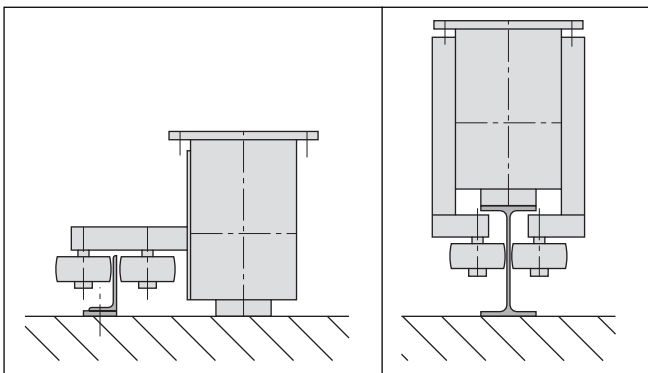

Fig. 3 - Traversing on concrete track, Fig. 4 - Traversing on rails with "L" shaped guide rail
The lower trolley (3) is hot galvanised at 500 gr/m². The trolley has 4 wheels, 2 front wheels are powered and the two rear wheels are mounted on an articulated beam. A polyurethane layer gives smooth and silent traversing and a good grip. The trolley is guided along the track by guide wheels (8) attached to the wheel box when "L" shaped guide rails (Fig. 3), concrete guide or rails are used (Fig. 4).